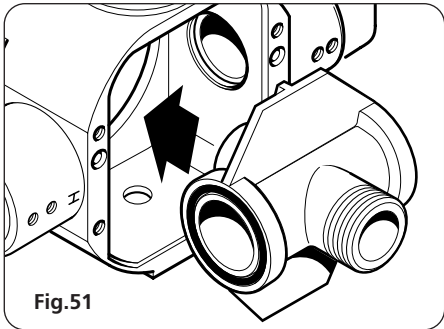

Fig.51
- 6 Push the flushing cartridge into the housing (fig.51). Ensure a hose is attached to the flushing cartridge outlet and is directed to waste, then flush the pipes clean.